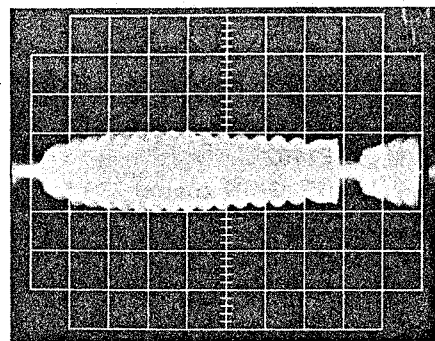

Fig. 4-23 Vertical Size Adjustment
8. Adjust V. SIZE control (RT1320) for minimum beats during the vertical period. (Figs. 4-23, 4-24)